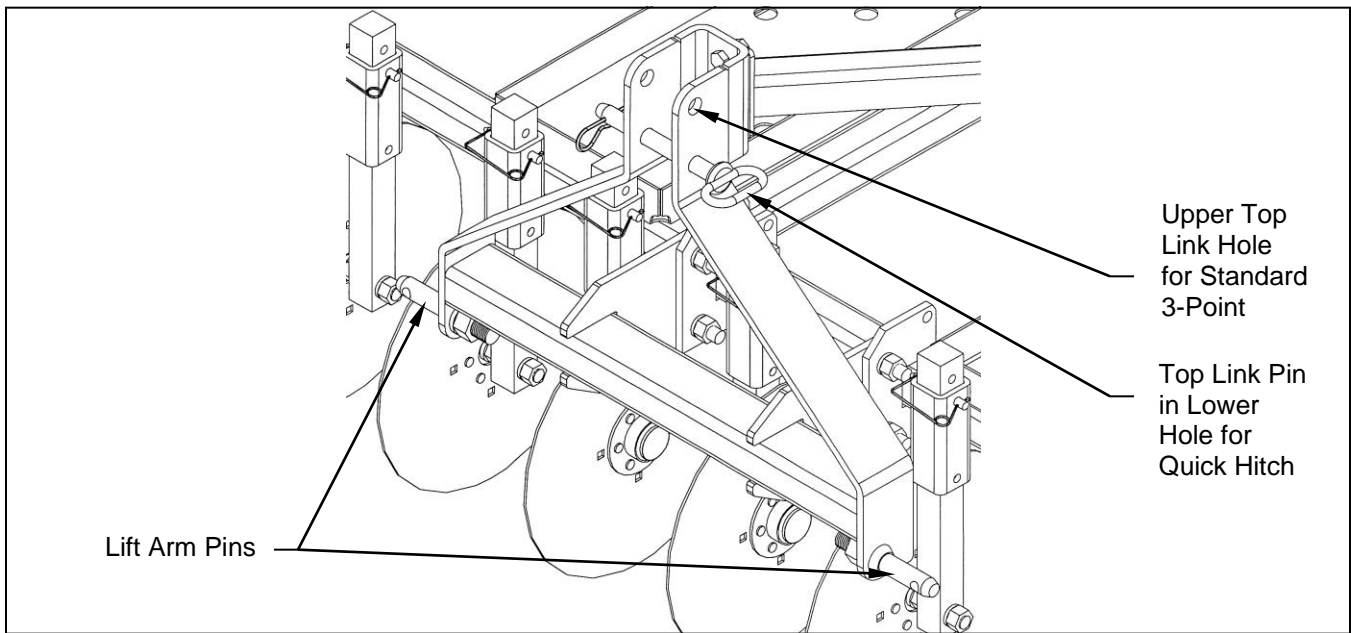

Figure 2. – Configuring for Quick Hitch
1. There is an upper and lower top link hole on the 3-point system. **(See Figure 2.)** The top link pin will be positioned in the top hole from the factory. If a quick hitch system is being used, the top link pin will need to be moved to the lower top link hole.